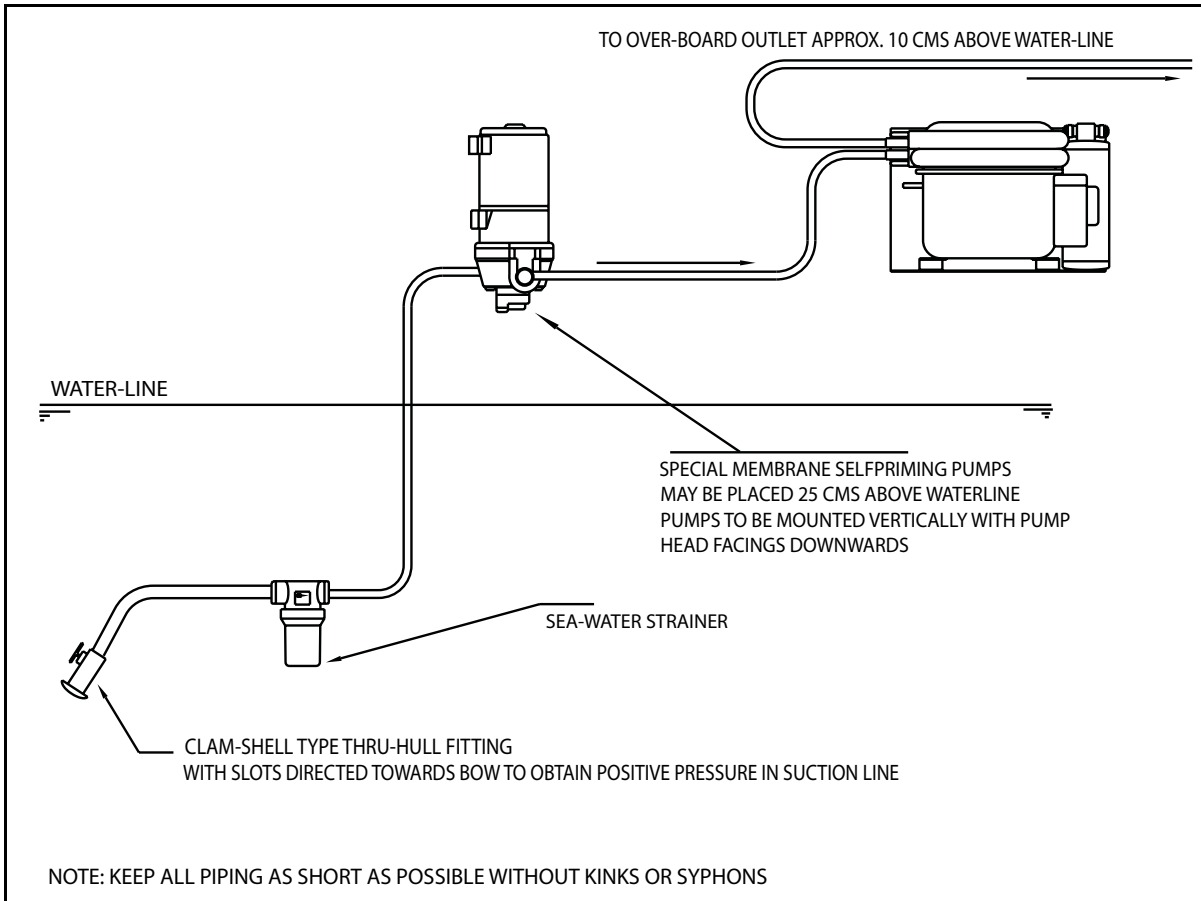

Figure 5. New Self-priming Seawater Pump WB200
1) Seawater cooling: Install the pump/strainer assembly in such a manner that a natural gentle upwards slope exists from the sea-cock to the pump itself. See Figure 5.